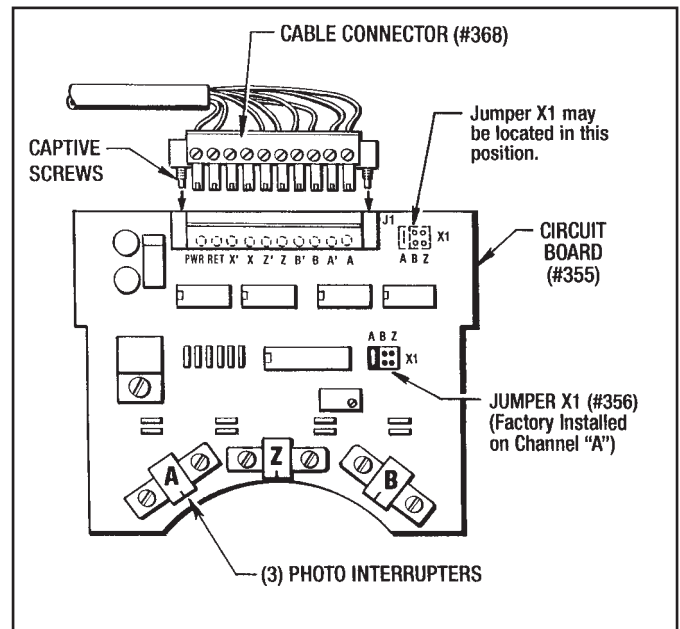

Figure 9.17 - Circuit Board Connector
11. Place the Cable Grommet (#260) and Cable (#259) into the upper slot and plug in the Cable Connector (#368) to the Circuit Board Connector and tighten the (2) Captive Screws in the Cable Connector. (See Figure 9.17)
12. Place the top Gasket (#19) on the Upper Enclosure and attach the Top Cover (#372) with (4) Screws (#225).